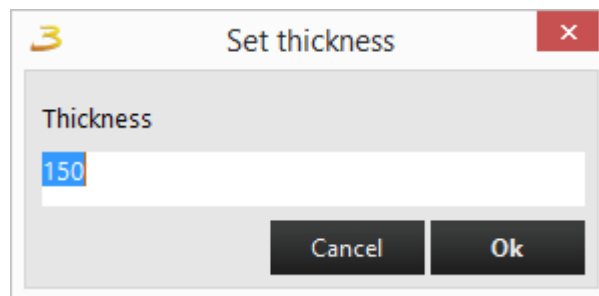

Figure 5.4: To set wall thickness.
- 3 Dragging the thickness modification button (orange arrows) changes the wall thickness, or selecting them and pressing the SPACE bar (or ENTER), see figure 5.4.